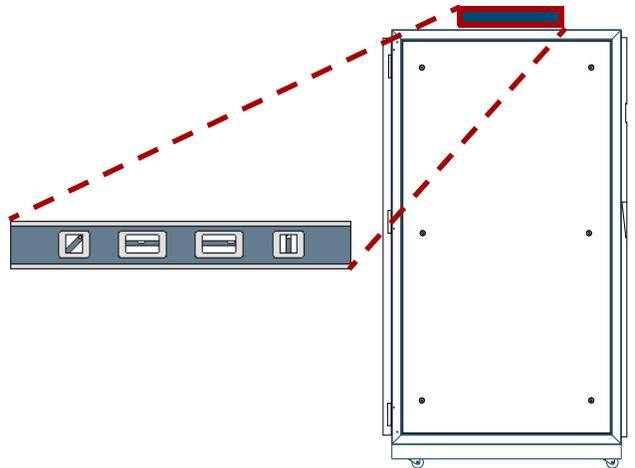

Figure 2-8: Positioning the Level
4. Place a level, front to rear, on the **top side edge** of the library (Figure 2-8).